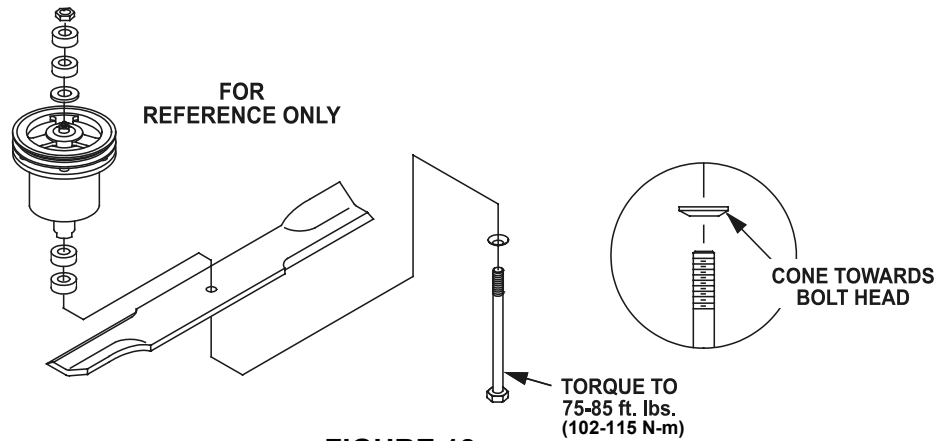

FIGURE 18
- g) Re-install the blades (if they were removed) and torque blade bolts to 75-85 ft/lbs (102-115 N-m). Be sure the spring disk washer cone is installed toward the bolt head (See Figure 18).